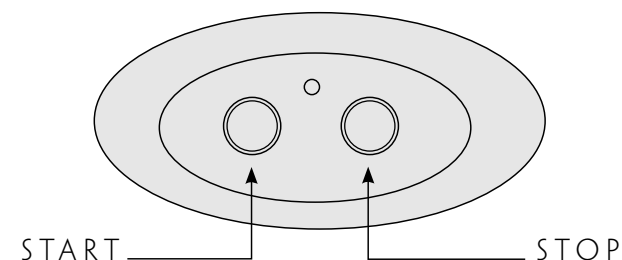

fig.3 Massage control panel
If required, activate the massage using the appropriate button, see fig. 3.
**The massage cycle lasts 3 minutes. If you want to stop the massage first, press the stop button, as shown in fig. 3. In any case, after 3 minutes the massage will stop autonomously.**